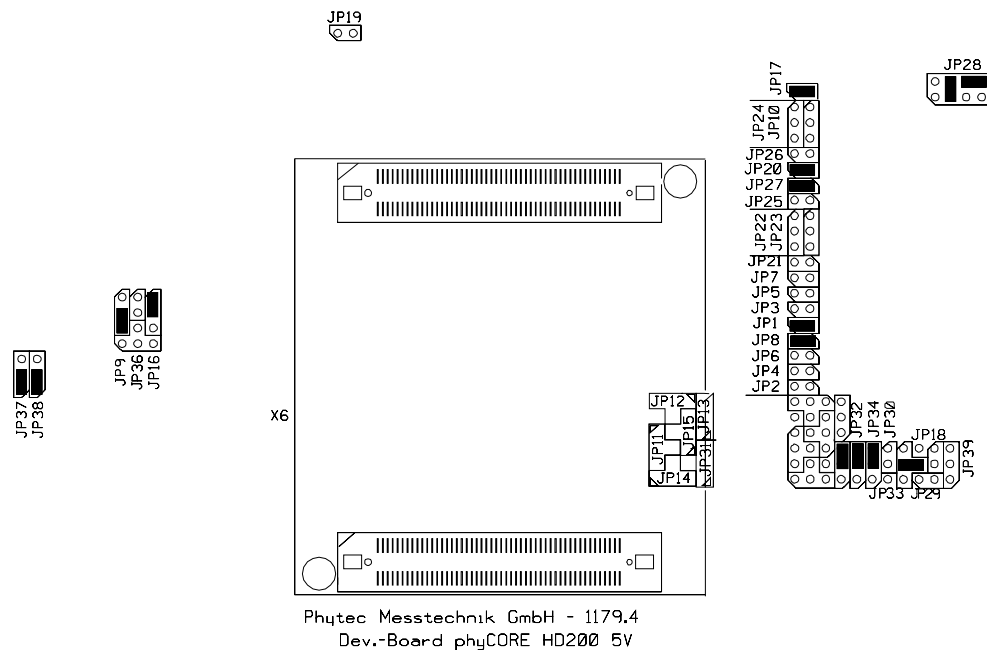

Figure 2: Default Setting for the phyCORE Development Board HD200 2.5V
- Configure the jumpers on the Development Board as indicated in *Figure 2*. This correctly routes the RS-232 signals to the DB-9 socket (P1A = bottom) and connects the Development Board's peripheral devices to the phyCORE module.